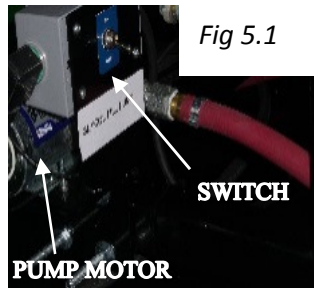

Fig 5.1
5) Plug in the HTF FILL PUMP and then switch the power ON. Verify that the pump is running by listening for sound from the pump's motor. This is shown in Fig 5.1.